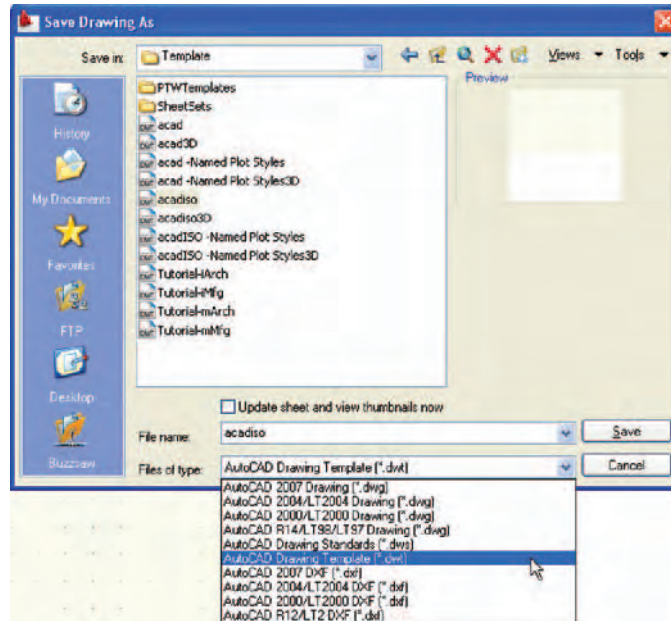

Fig. 4.21 Saving the template to the name **acadiso.dwt**
2. In the **Save Drawing As** dialog which comes on screen (Fig. 4.21), click the arrow to the right of the **Files of type** field and in the pop-up list associated with the field click on **AutoCAD Drawing Template (*.dwt)**. The list of template files in the **AutoCAD 2009/Template** directory appears in the file list.